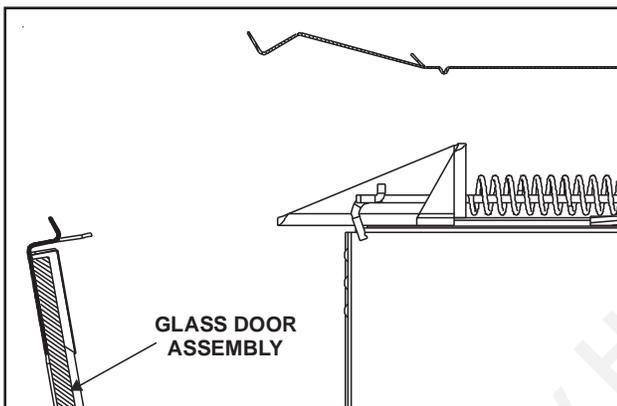

Figure 3.2
- Noting carefully how the brackets fit on the glass, release the two spring latches at the top and two at the bottom of the glass door. Carefully lift the glass up and out away from the appliance. See Figure 3.2.